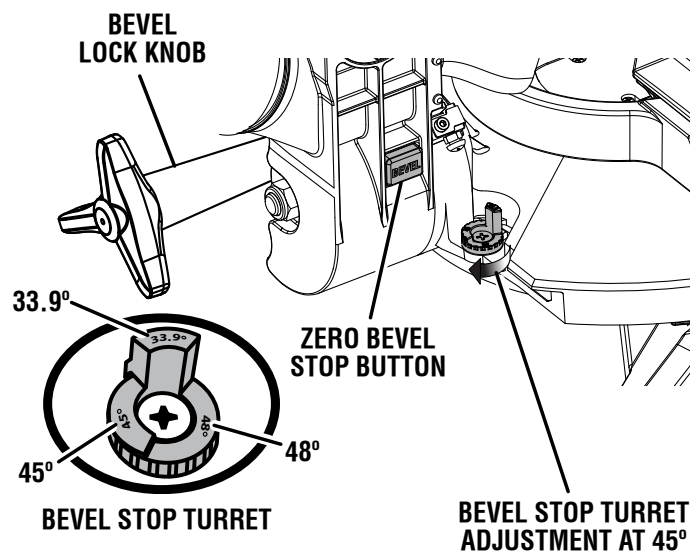

Fig. 27
**NOTE:** Use the bevel stop turret to locate 33.9°, 45°, and 48° bevel angles. See Figure 27.
- **NOTE:** Use the bevel stop turret to locate 33.9°, 45°, and 48° bevel angles. See Figure 27.